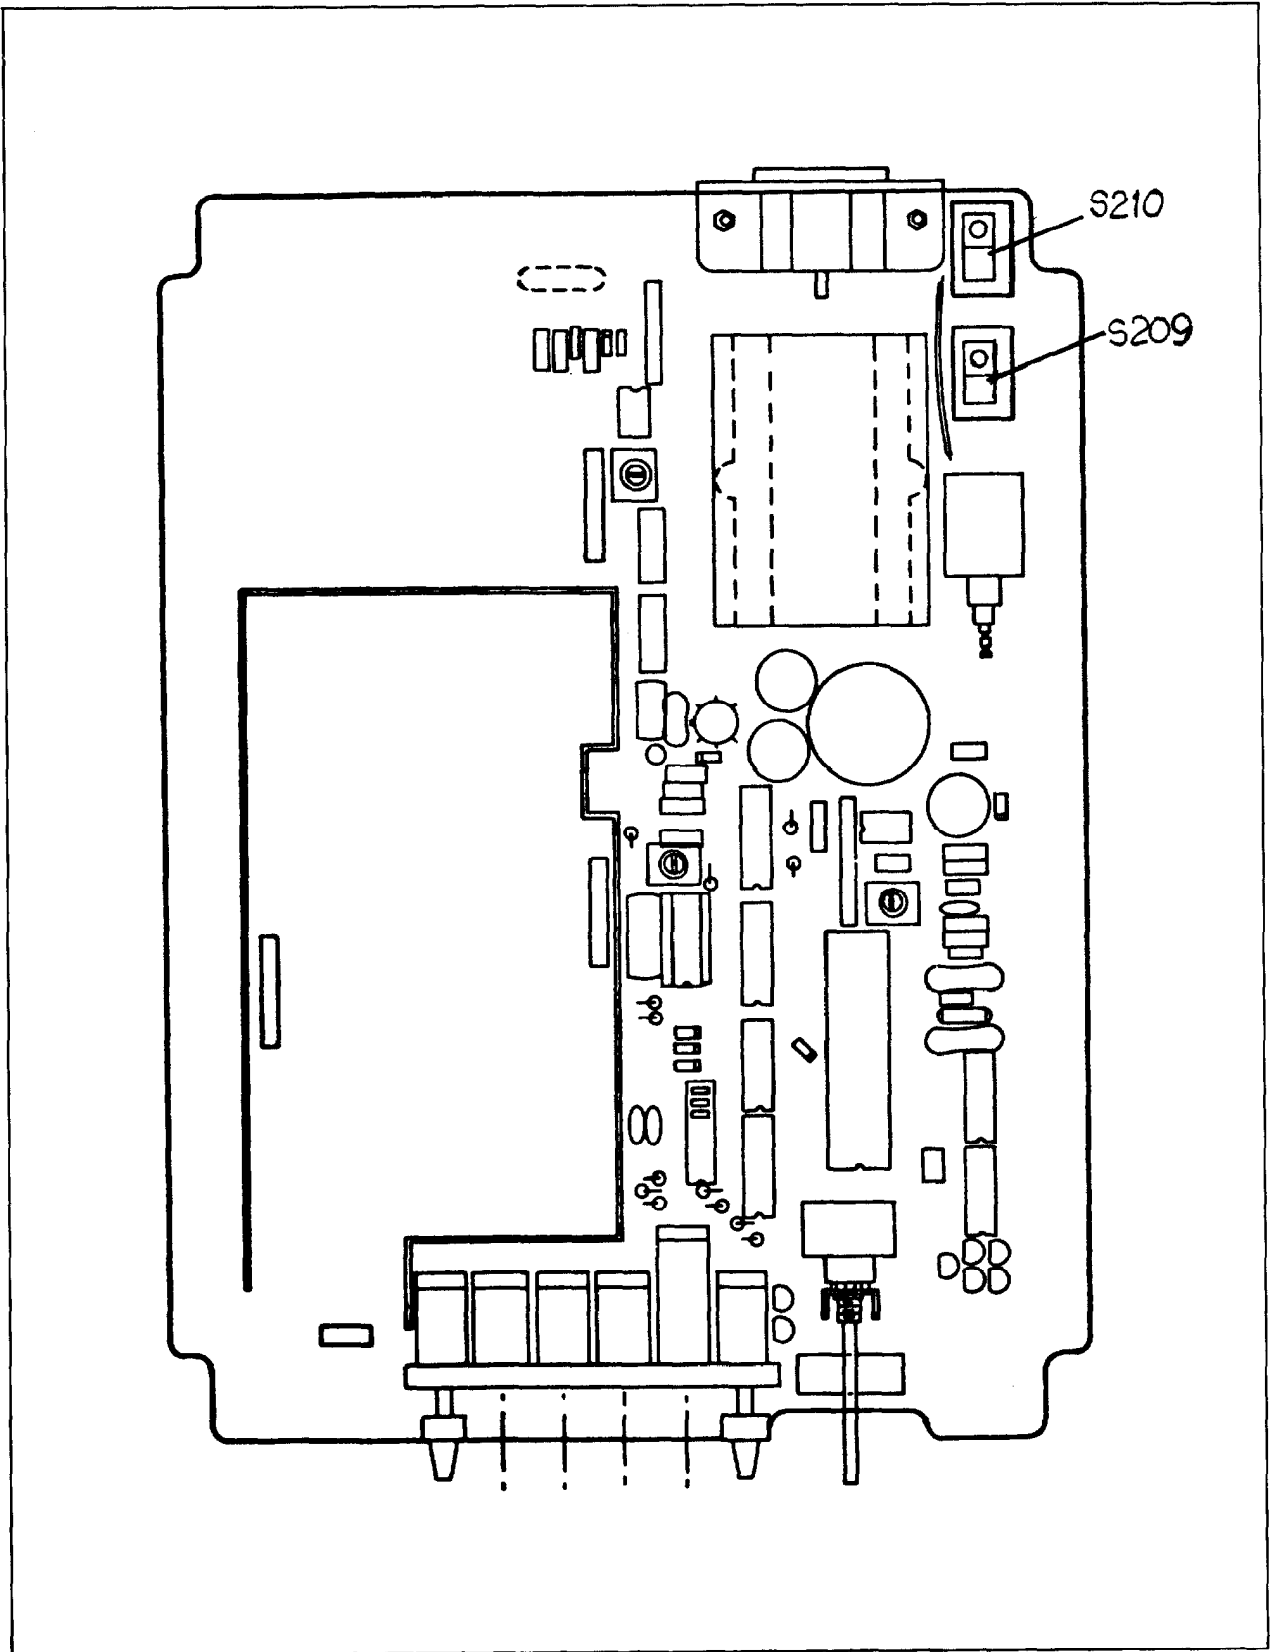

Figure 2-2. Input Power Selection
2. Locate the power selection switches S209 and S210 as shown in Figure 2-2.